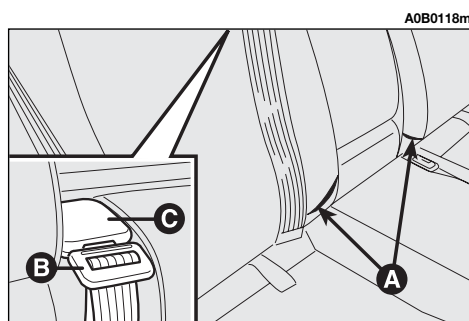

fig. 40
- Check that the lateral safety belt buckles (**A-fig. 40**) are located in their pockets on the seat back and that the tab (**B-fig. 40**) of the central abdominal safety belts is hooked onto the support (**C-fig. 40**).